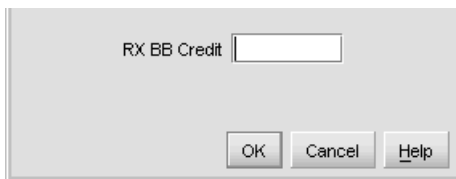

Figure 38 RX BB Credit dialog box
- a. Right-click in the RX-BB Credit column to display the RX BB Credits dialog box as shown in Figure 38: